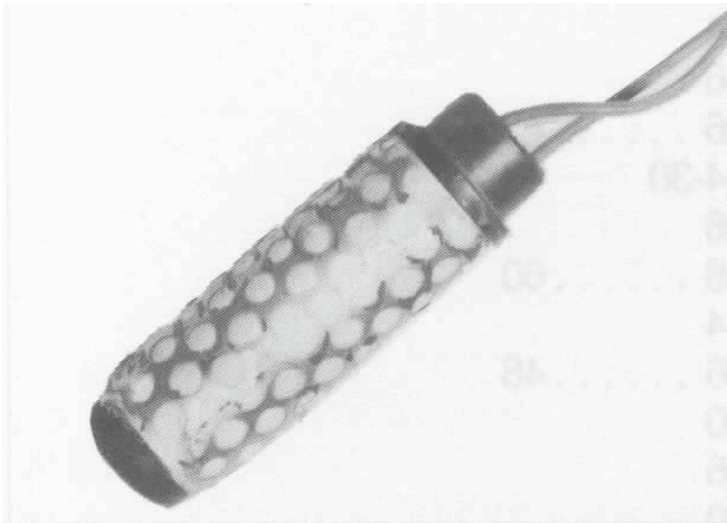

Fig. 1. Electrical resistance block.
Electrical resistance blocks, sometimes referred to as gypsum blocks, are an inexpensive and simple soil moisture measurement tool. They are useful for timing irrigations, but do not provide information regarding the amount of irrigation water required. Electrical resistance blocks are installed permanently at a site and have the advantages of allowing their user to quickly monitor soil moisture at the same location throughout the season. Gypsum blocks monitor soil moisture indirectly by measuring the electrical resistance between two electrodes attached to a small, cast block of gypsum buried in the soil. Some electrical resistance blocks have electrodes mounted in fiberglass or in perforated metal-encased blocks containing a sand/gypsum mixture (Fig. 1). Wires, available in various lengths, lead from the blocks to the soil surface. The electrical resistance is read with a portable conductance meter. Conductance ($1 / \text{resistance}$) is actually what is measured using the gypsum blocks. Measuring conductance requires use of alternating current (AC), which the meter produces from its direct current (DC) battery. Use of a simple resistance or ohm meter to read the electrical resistance blocks will not give stable or reliable readings. Electrical resistance blocks and meters vary in cost by manufacturer with blocks ranging in cost from \$6-\$35 each and meters costing approximately \$250. Since the meter is portable, only a single meter is required to monitor all the installation sites. At a normal site, a gypsum block may last 2 to 3 years, but in areas of frequent irrigation or high water table it may require annual replacement.